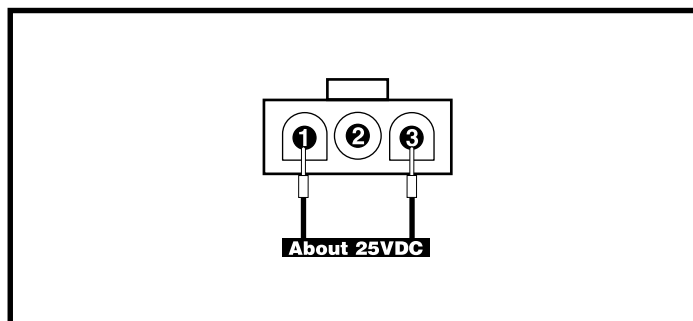
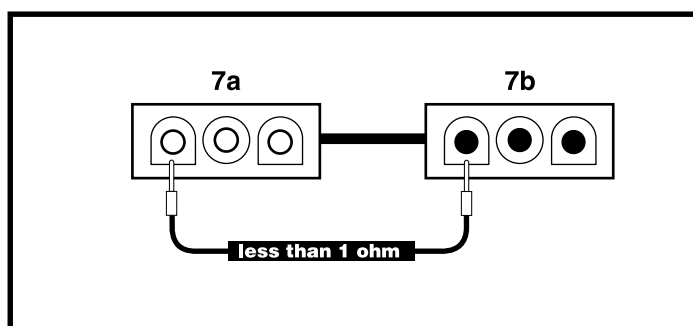
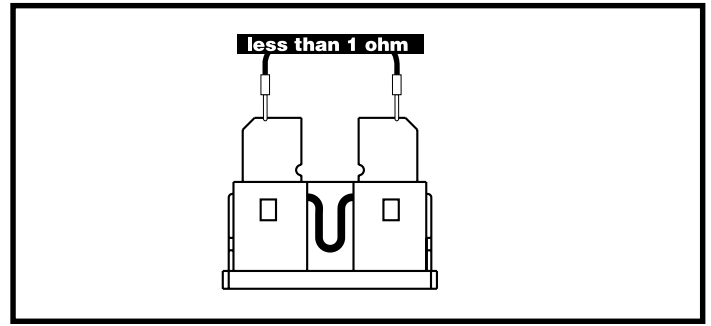

Figure 15. Connector 7b
Figure 16. Connectors 7a and 7b
Figure 17. Fuse 7c
18. Measure voltage across pin 1 and pin 3 on connector 7b. **See figure 15.**
- *If your multimeter indicates total battery voltage (about 25VDC)*, then replace the onboard battery charger (6) and retest the system.
20. Measure resistance across pin 1 on connector 7b and pin 1 on connector 7a. **See figure 16.**
- *If your multimeter indicates less than 1 ohm*, then replace the charger/joystick interface harness (3) and retest the system.
- *If your multimeter indicates an open*, then replace the charger interface harness (7) and retest the system.
22. Measure resistance across the two fuse blades. **See figure 17.**